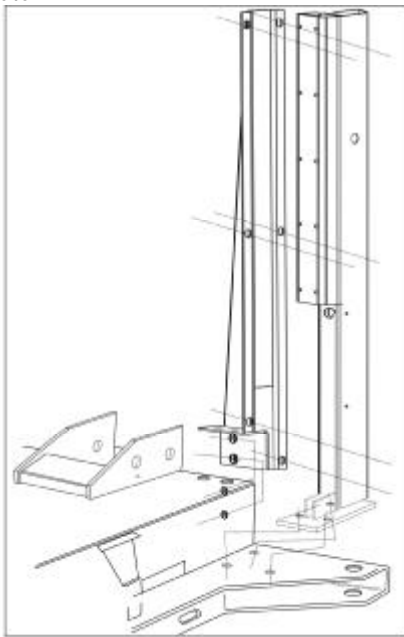

Fig.06
- I Remove the bolts (Fig.06) and washers on right side plate of cabin, place the unit (Fig.05) on the seat vertically,